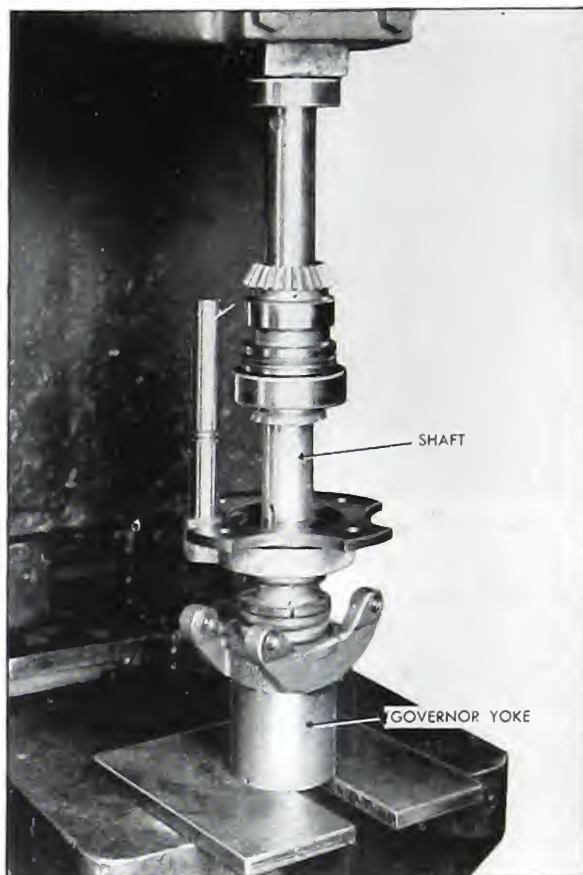

Fig. 5-144. Pressing yoke on shaft
7. After removing any burrs, assemble the key for the governor yoke on the main shaft. Put the idling spring and increased torque spring, or spacers, as called for in current parts books, on the mainshaft. Grease the mainshaft and press the yoke on the shaft over the key all the way to the stop as shown in Fig. 5-144.